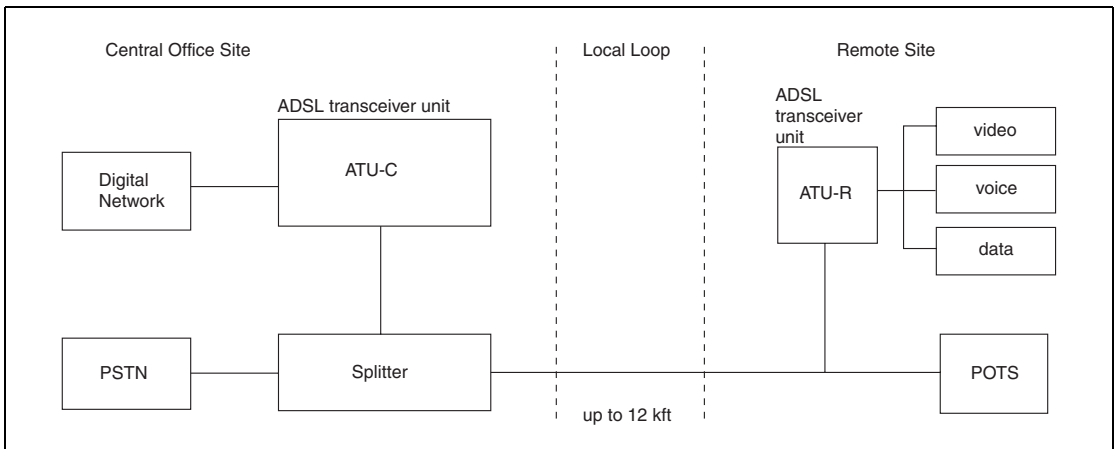
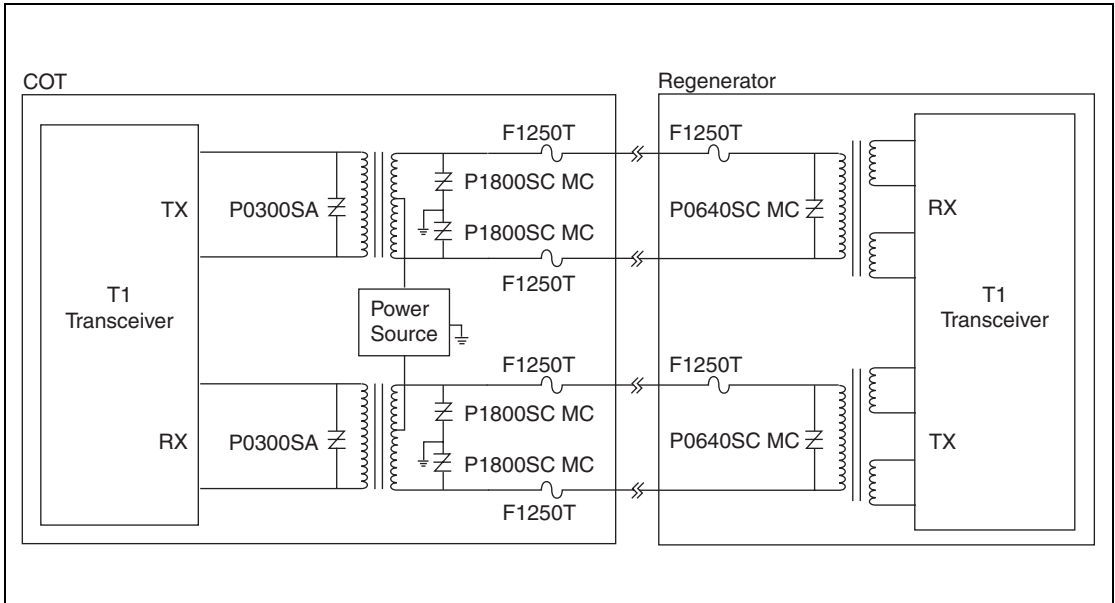

Figure 3.7 ADSL Overview
Figure 3.17 T1/E1 Protection
Transmission equipment should be protected against overvoltages that can exceed 2500 V and surge currents up to 500 A. In Figure 3.7 through Figure 3.17, *SIDACtor* devices were chosen because their associated peak pulse current ( $I_{PP}$ ) rating is sufficient to withstand the lightning immunity tests of GR 1089 without the additional use of series line impedance. Likewise, the fuse shown in Figure 3.7 through Figure 3.17 was chosen because the  $\text{amps}^2\text{time}$  ( $I^2t$ ) rating is sufficient to withstand the lightning immunity tests of GR 1089, but low enough to pass GR 1089 current limiting protector test and power cross conditions (both first and second levels).
Asymmetric Digital Subscriber Lines (ADSLs) employ transmission rates up to 6.144 Mbps from the Central Office Terminal (COT) to the Remote Terminal (RT) and up to 640 kbps from the RT to the COT at distances up to 12,000 feet. (Figure 3.7)
Longitudinal protection is required at the Central Office Terminal (COT) interface because of the ground connection used with loop powering. (Figure 3.17) Two P1800SC MC *SIDACtor* devices provide overvoltage protection and two F1250T *TeleLink* fuses (one on Tip, one on Ring) provide overcurrent protection. The P1800SC MC device is chosen because its  $V_{DRM}$  is compliant with TIA-968 regulations, Section 4.4.5.2, "Connections with protection paths to ground." These regulations state:
For the transceiver side of the coupling transformer, additional overvoltage protection is shown in Figure 3.17 using the P0300SA *SIDACTor* device. When an earth ground connection is not used, only metallic protection is required. Metallic protection is satisfied using a single P0640SC MC *SIDACTor* device across Tip and Ring and a single F1250T *TeleLink* fuse on either Tip or Ring.